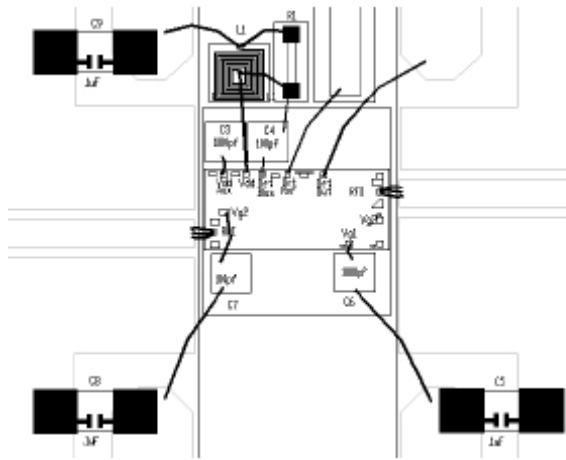
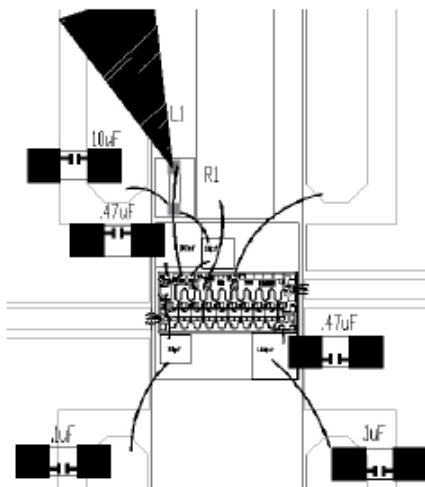
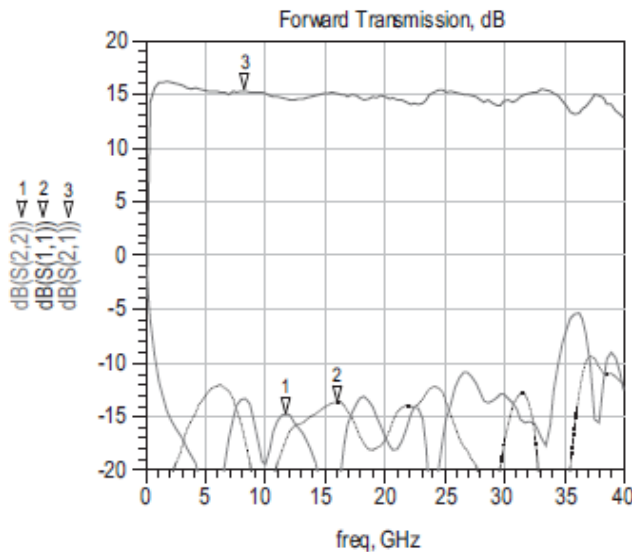

Figure 6
Figure 7
Figure 9. 0.01 to 40 GHz S-parameters using a seven-turn micrometrics chip inductor
- 3) Increasing the inductance of the drain inductor (L1, Figure 6) to provide high impedance bias feed at the lower frequencies.
All three factors are equally important since any one of these can limit the low frequency performance. Input and output return loss degrades as the drain and gate line loads deviate from 50 Ω. The load can be restored close to 50 Ω and RF performance improved by adding large external capacitors in parallel with the on-chip capacitors, as shown in Figure 6. When the additional bypass capacitors are connected, the low frequency limit is extended down to the corner frequency determined by the bypass capacitors, the combination of the on-chip 50Ω load, and the small de-queing resistor. At this low-end band edge, the small signal gain will increase in magnitude and stay at this elevated level down to the point where the CAUX bypass capacitor acts as an open circuit, effectively rolling off the gain completely. The low frequency capacitive extension limit can be approximated from the following equation:
Using this equation, CDC can be calculated for different desired corner frequencies. The equation is an approximation because it does not take into account other factors, such as transmission line impedances and TWA termination networks. In a typical assembly, the bypass capacitors are usually mono-block capacitors on the order of 0.01 or 0.47 μF , depending on the desired low frequency operating point. Keep in mind that these mono-blocks have series parasitic inductance. Since the RF DC blocking capacitors are the most sensitive, in this respect, we show a few recommended broadband DC blocks in Table 1. Figure 6, illustrates a 2 GHz to 50 GHz laminate PCB assembly. L1 is a chip inductor, and R1 is the de-queing alumina chip resistor. Figure 7, illustrates a 10 MHz to 50 GHz laminate PCB assembly. L1 is a Piconics broadband inductor. This inductor has an iron filling that negates the parallel resistor for de-queing. R1 is used simply as a means of launching the inductor. As discussed previously, as the DC bias is on the same electrical path as the RF path, it is possible to bias the TWA through the RF transmission line. Figure 7 illustrates this alternative method.
The 0.01 GHz to 40 GHz RF performance, using a 7 turn Micrometrics chip inductor shown in Figure 7, are illustrated in Figure 9. This module is for 2 to 40GHz applications. All module losses are included in this data.
The 0.01 GHz to 40 GHz RF performance, using a conical ferrite core inductor shown in Figure 7, is illustrated in Figure 9. This module is for 0.01 to 40GHz applications. All module losses are included in this data. To extend low-end frequency range to 30 KHz, an additional RFC is required in series to the conical ferrite core inductor.